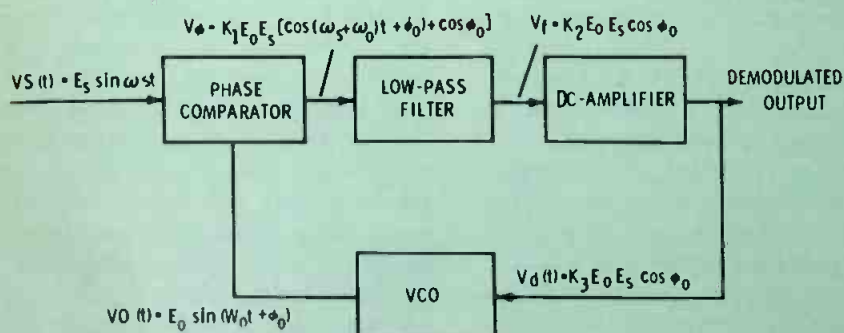

Fig. 1 Block diagram of a phase locked loop.
Fig. 1 At top (A) is a classic relay circuit. (B) the diode of (A) is replaced with resistor-capacitor network. The circuit at (C) is a delayed-on, delayed-off design. (D) is a timed 'on' circuit. (E) and (F) are unique pushbutton control circuits.
Figure 1(e) and (f) show a couple of unusual pushbutton control circuits I have stumbled across. In (e) C is charged slowly through R, then when S is pushed, discharges quickly through K. If R is large, K will drop out when C's voltage drops below the 'hold-in' value. If R is small enough, K will hold in at minimum voltage. This circuit may be used where it is desired to operate a high current drain relay from a supply too small to operate it. For example, assume K to be a 700 Ohm, 28 Volt relay. Normal drain is 40 ma. Drop out current is about 5-8 ma. for most of these relays. Make R 2.7K. The maximum charge current for C will then be limited to 10 ma. Running current will be 8.2 ma. R may be raised to as high a value as desired (determined by the allowable charge time for C) if K is to drop out after C discharges.
The basic PLL, shown in Figure 1, consists of four building blocks: a phase comparator, a low pass filter, an amplifier, and a voltage controlled oscillator (or VCO). The heart of the loop is the phase comparator which compares the input and VCO signals and generates an
Another means of describing the operation of the PLL is to observe that the phase comparator is, in actuality, a multiplier circuit which mixes the input signal with the VCO signal. This produces the sum and difference frequencies $f_s \pm f_o$ shown in Figure 1. When the loop is in lock, the VCO duplicates the input frequency so that the difference frequency component ($f_s - f_o$) is zero and, hence, the output of the phase comparator contains a DC component. The low pass filter removes the sum frequency component ($f_s + f_o$) but passes the DC component which is then amplified and fed back to the VCO. Notice that when the loop is in lock, the difference frequency component is always DC, so that the lock range is independent of the bandedge of the low pass filter.